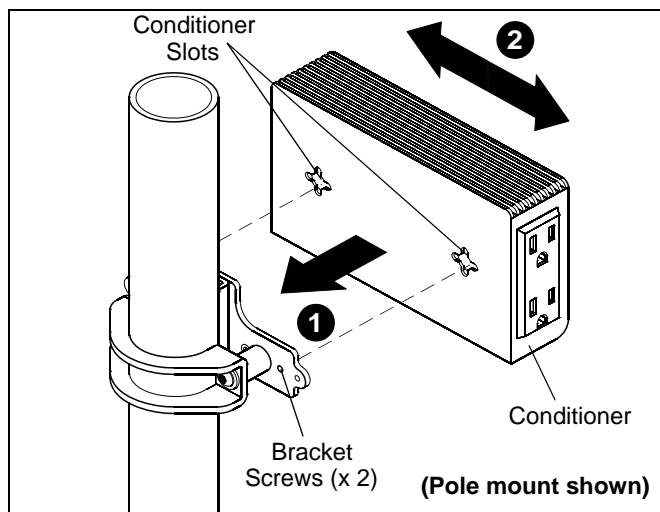

Figure 5
(See Figure 5)
2. Slide conditioner left or right. (See Figure 5)